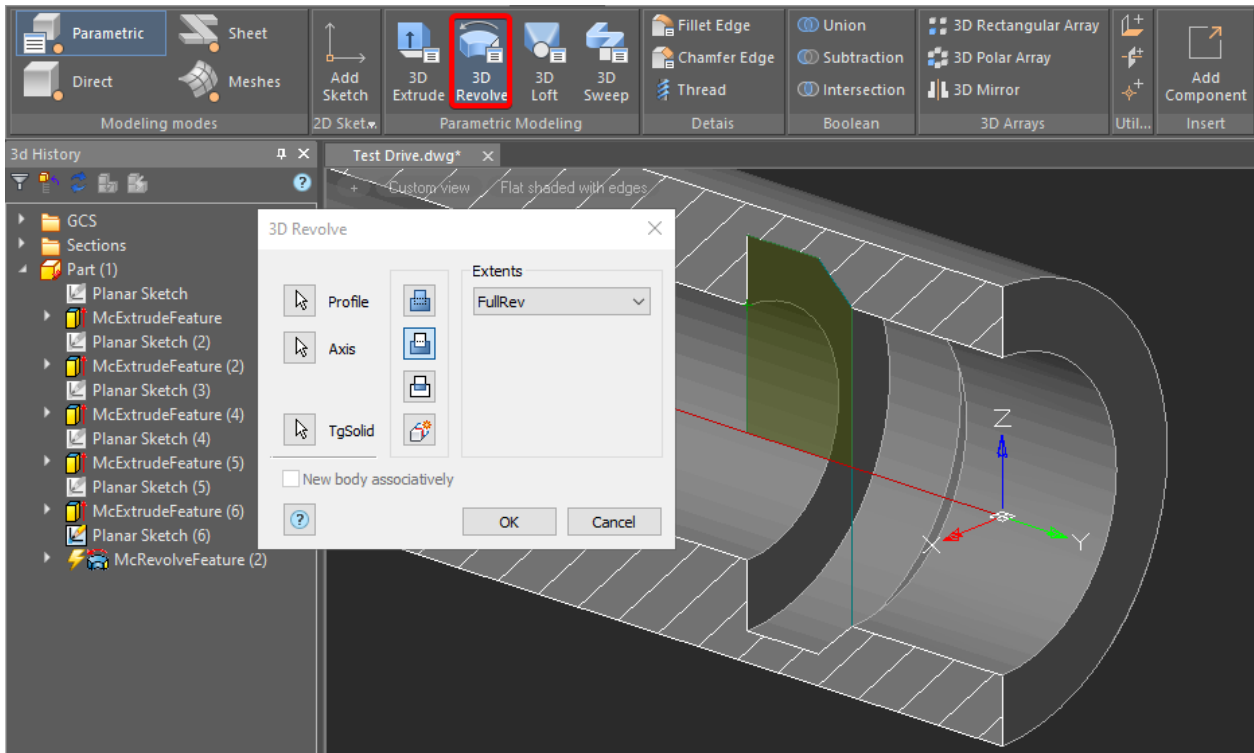

Fig. 17. The 3D Revolve operation
5.5. Switch to the **3D Tools** tab and click **Revolve**. Select the sketch area. In the dialog box click **TgSolid** and choose **Part (1)** in **3D History**. In the **3D Revolve** dialog box choose the **Cut** option and select **Axis**. Specify the rotation axis and click **OK** (Fig. 17).